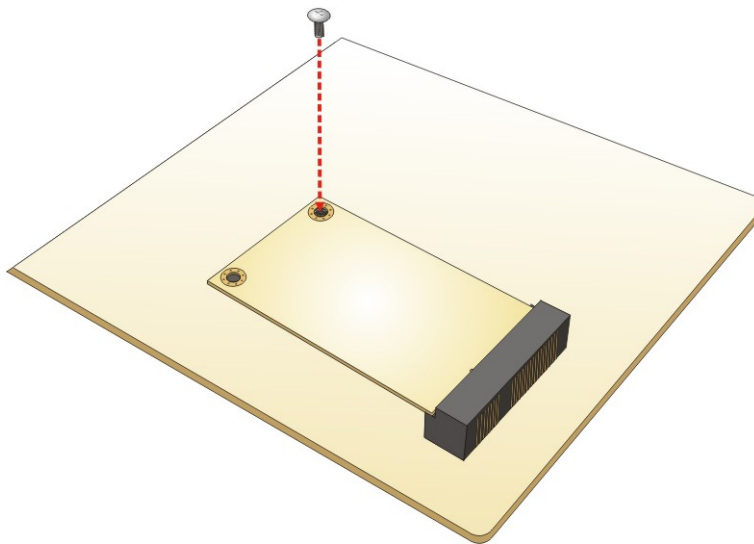

Figure 4-8: Securing the Full-size PCIe Mini Card
Step 5: Secure the full-size PCIe Mini card. Secure the full-size PCIe Mini card with the retention screw previously removed (Figure 4-8).